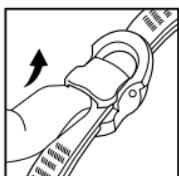
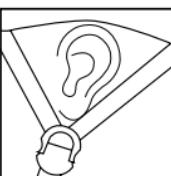

Figure 2
Figure 3
1. Open the Cam-Lock adjustors (Figure 2). Put the helmet on and slide the straps through the adjustors until they are located in the correct position as indicated in Figure 3.
3. Close and lock the Cam-Lock adjustors. The front and rear straps should join at a point slightly below and in front of (but not covering) the ears (Figure 3).